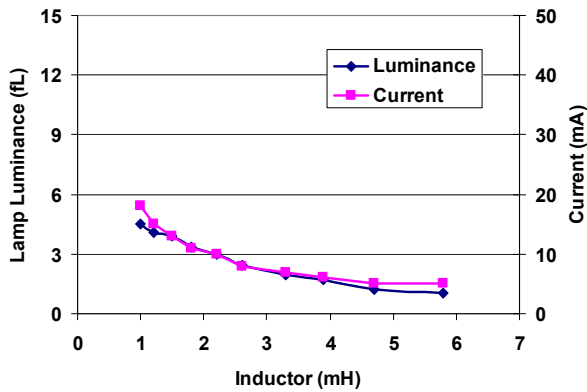

Figure 3: V+=1.5V, 1in² (6.45cm²) EL Lamp
The external inductor (L) selection for a D356B IC driver circuit greatly affects the output capability and current draw of the driver. A careful designer will balance current draw considerations with output performance in the choice of an ideal inductor for a particular application. Figures 3, 4, and 5 show typical brightness and current draw of a D356B IC driver circuit with different inductor values, lamp sizes, and supply voltages while keeping the LF constant. Please note that the DC resistance (DCR) of inductors with the same nominal inductance value may vary with manufacturer and inductor type. Therefore, inductors made by a different manufacturer may yield different outputs, but the trend of the different curves should be similar. Lamp luminance is also a function of lamp size. In each example, a larger lamp will have less luminance with approximately the same current draw.